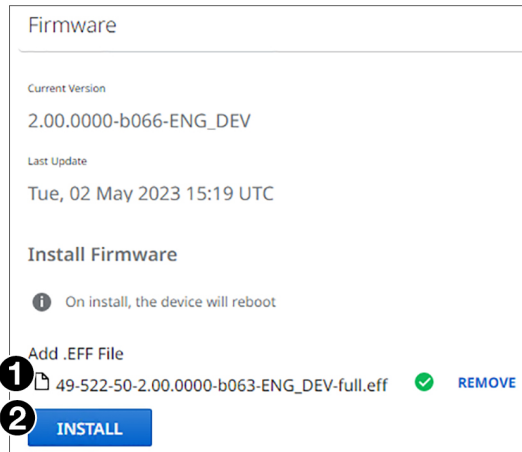

Figure 39. Firmware Update Dialog Box with a Firmware File Selected
3. Double-click the firmware file name. The Open window closes, and the firmware file name appears in the Update Firmware panel on the web page (see figure 39, ①).
4. Click **Install** (see figure 39, ②) to begin uploading the firmware. (If you want to cancel the update, click the X button in the upper-right corner of the Update Firmware panel.)